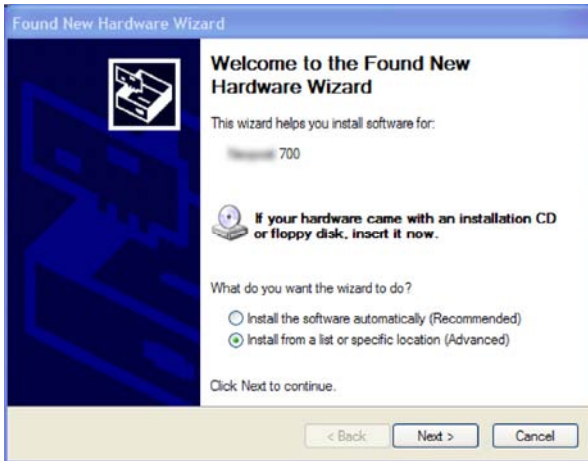
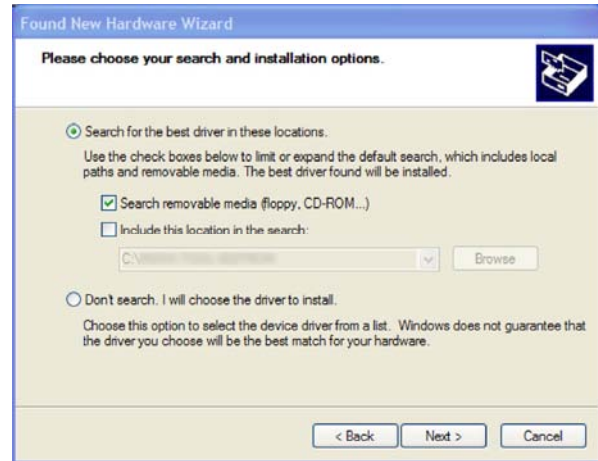

Figure 33: New Hardware Wizard
Figure 34: Recommended install procedure
- If asked select the installation choices as shown in Figure 33 and Figure 34. The Wizard will search the content of the CD-ROM for the drivers and will install them.